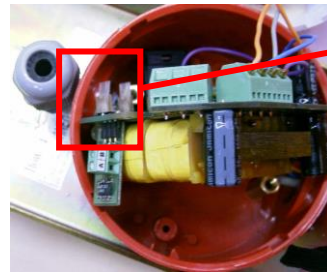

Figure 7
2. Remove the board and connect the circuit AHG3802Vxx to it (figure 7)